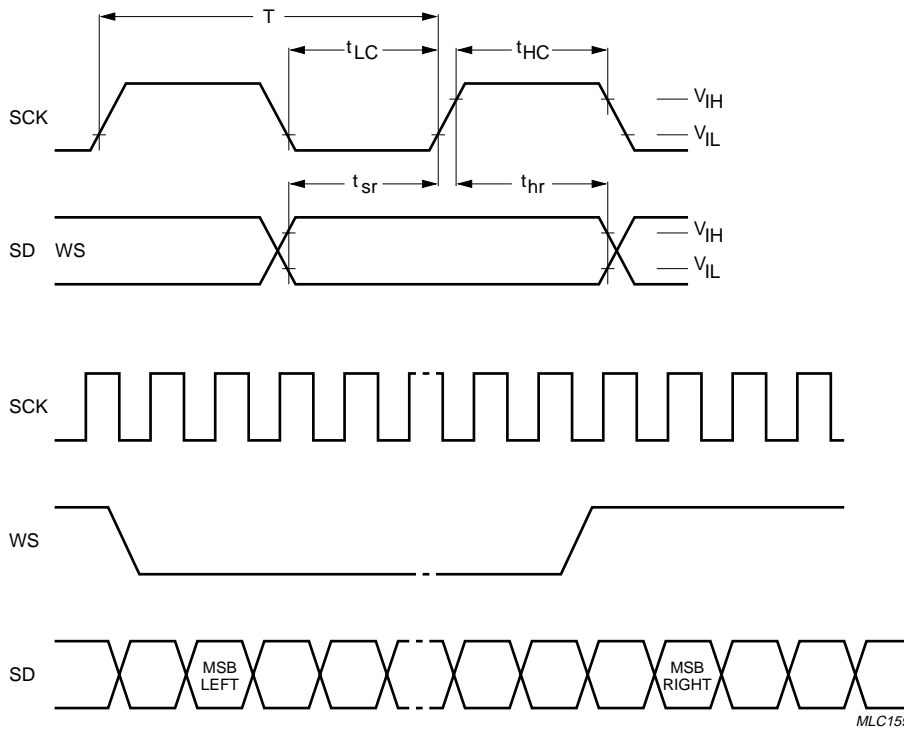

Fig.11 I²S-bus timing format.
The I²S-bus digital interface is used for communication to external digital sources. It is a 3-line serial bus with one line each for data, clock and word select. Figure 11 illustrates an excerpt from the Philips I²S-bus specification interface report with respect to general timing and format of the bus. Word select (WS) at logic 0 signifies the left channel and logic 1 the right channel.